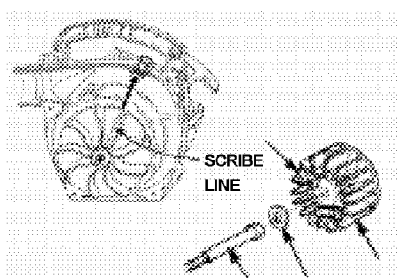

FIGURE 53
2. Assemble the fan with the molded scribe line on the fan, in line with the spark plug (see Figure 53)